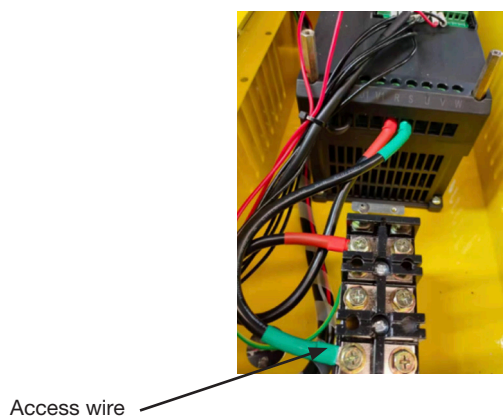

Figure 3. Wire head terminals
- g. The power supply access line must be fitted with terminals to ensure that the terminal block screws are tight, reliable and will not come loose. A full-time electrician must install the electrical cable. (see Figure 3)